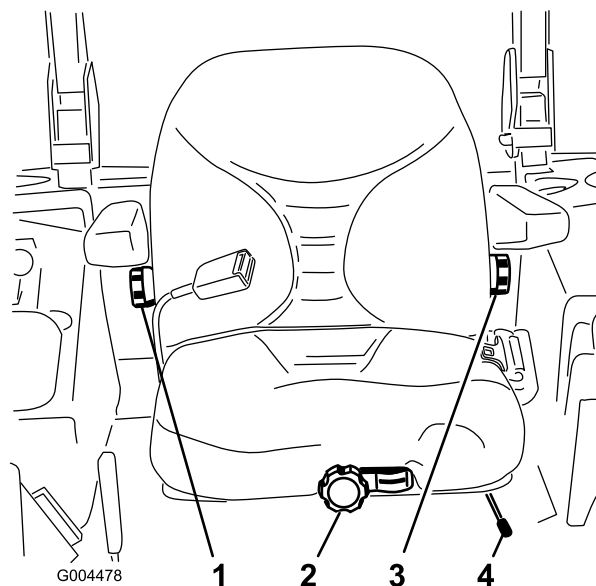

Figure 33
1. To adjust, move the lever sideways to unlock the seat (Figure 33).
Without sitting on the seat, turn the knob in front either direction to provide the best comfort (Figure 33).
To adjust it, turn the knob, under the right-side arm rest, in either direction to provide the best comfort (Figure 33).
To adjust it, turn the knob, under the left-side arm rest, in either direction to provide the best comfort (Figure 33).